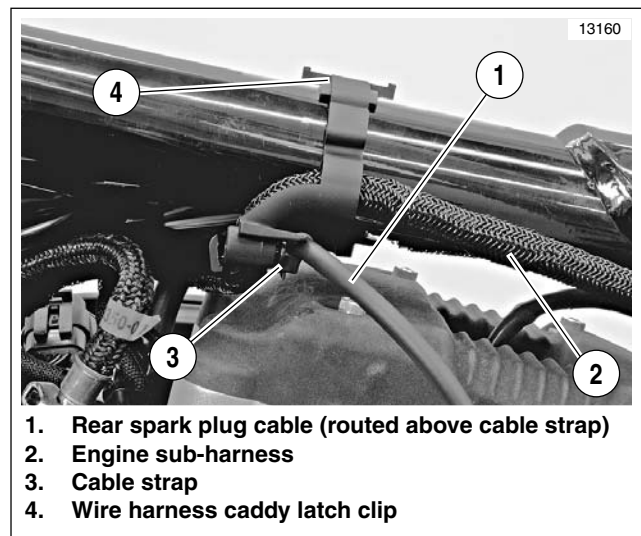

Figure 7-106. Wire Harness Caddy Latch Clip
7. See Figure 7-106. Unhook wire harness caddy latch clip (4) from rear of wire harness caddy. If necessary, cut cable strap (3) securing rear spark plug cable (1) to caddy latch clip.